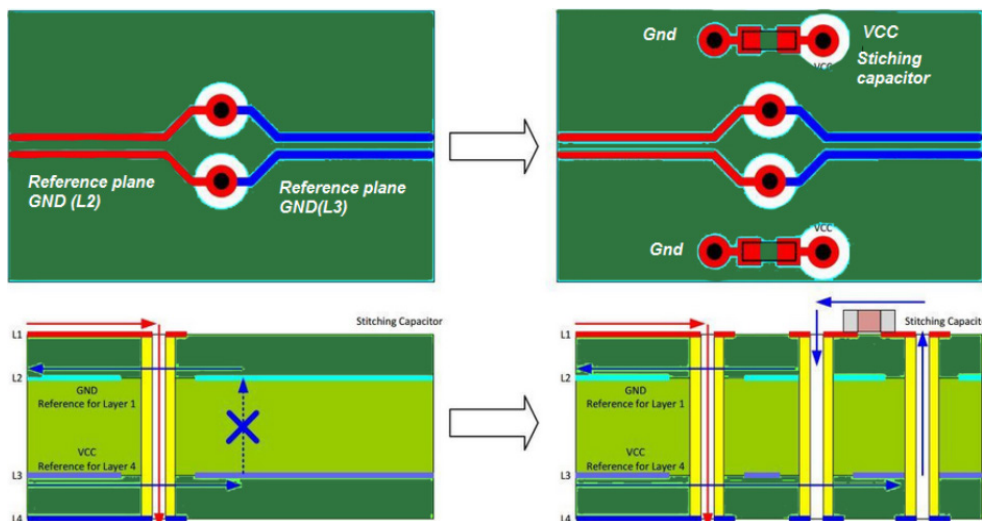

Figure 25. Stitching Via Layout Practices
- Renesas recommends routing a signal across different planes. If this is not possible, implement a stitching capacitor next to the trace to maintain a short return path (see Figure 25).